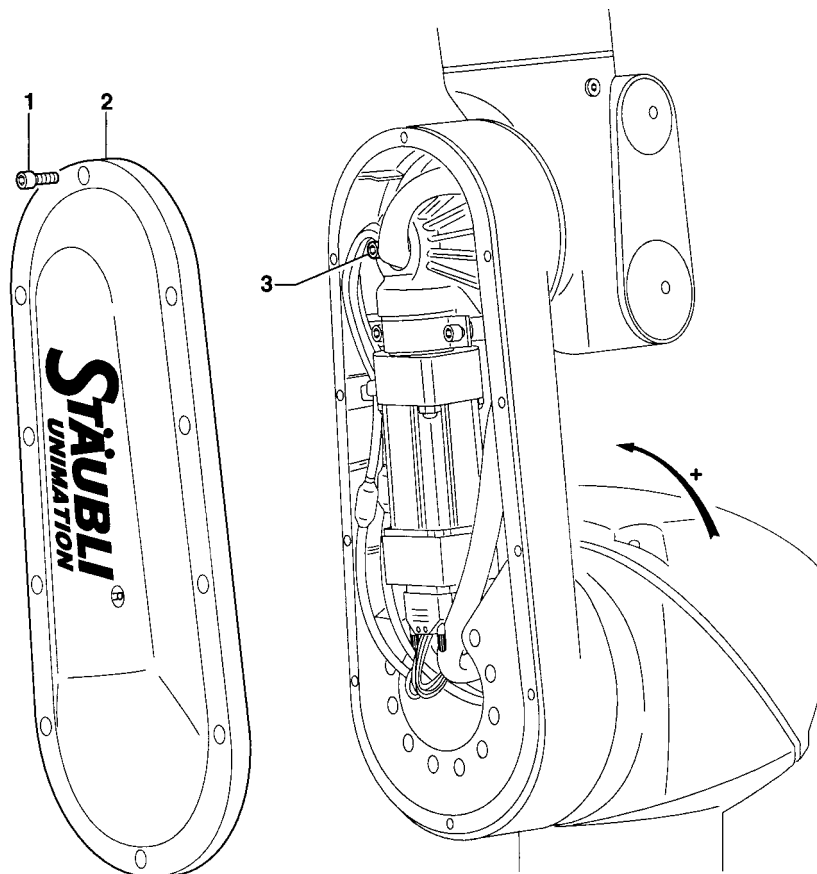

Figure 5.2
5.1.3. JOINT 3 TRANSMISSION CASING (figure 5.2)